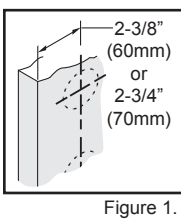

Figure 1.
2. Mark appropriate centers for the 2-1/8" (54mm) diameter holes. Important, select desired backset before marking centers (see figure 1).